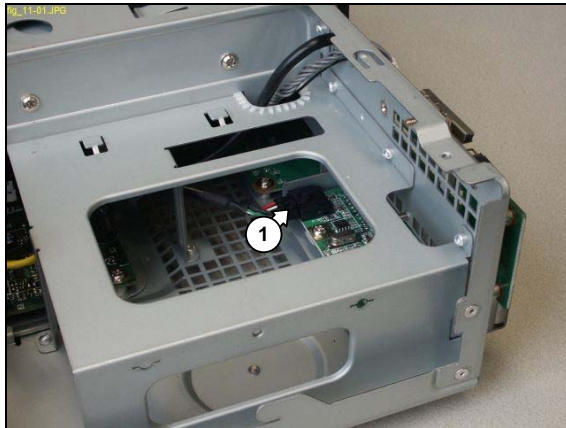

Figure 12.11-1
4. Disconnect the cable (1) from the rear of the card reader board. See Figure 12.11-1.